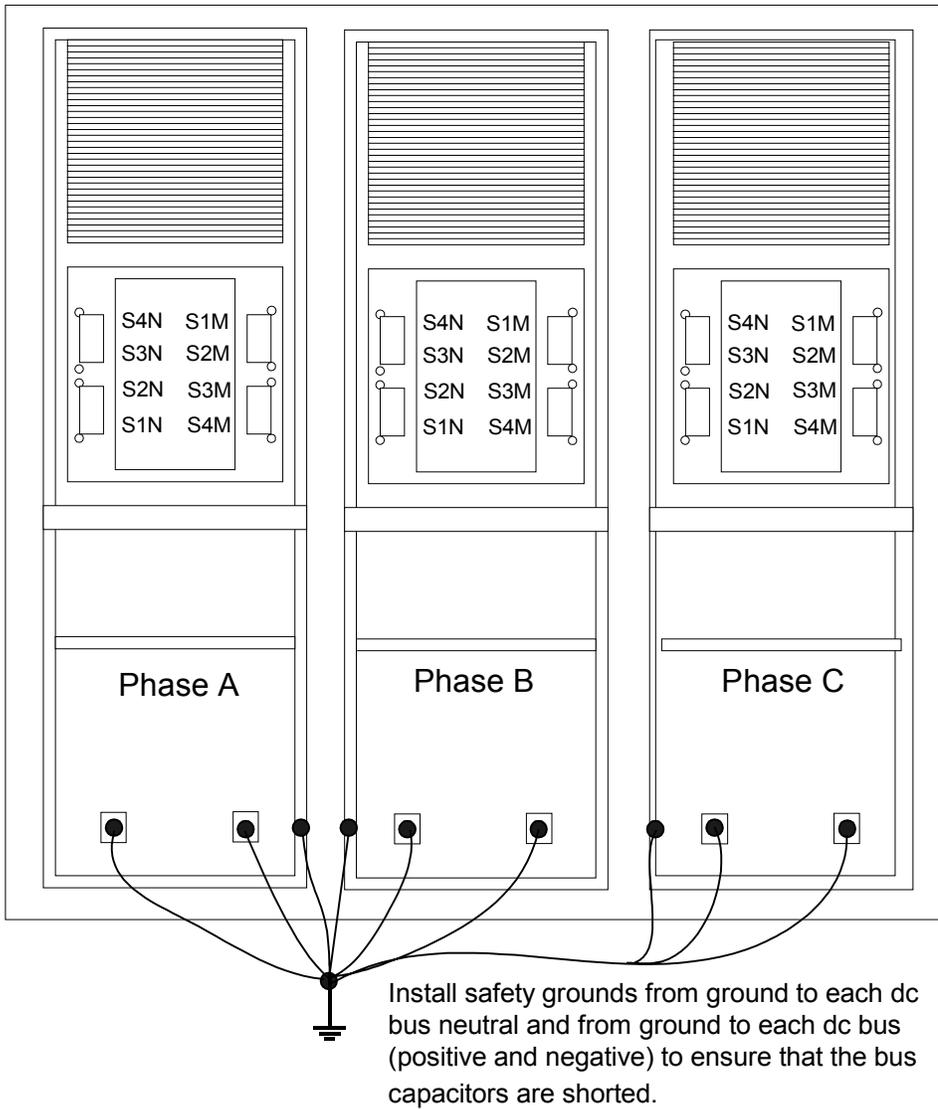

Figure 3. Dc Bus Safety Grounding
3. Install safety grounds (see Figure 3) and, using equipment designed for high voltages, test any electrical circuits **before touching them** to ensure that power is OFF and has dissipated.